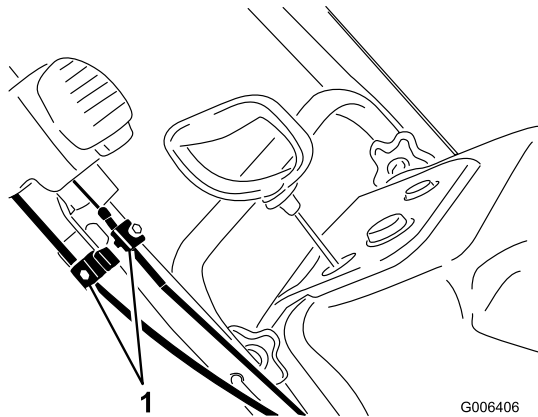

Figure 38
1. Loosen the two Quick Shoot control cable clamps (Figure 38).